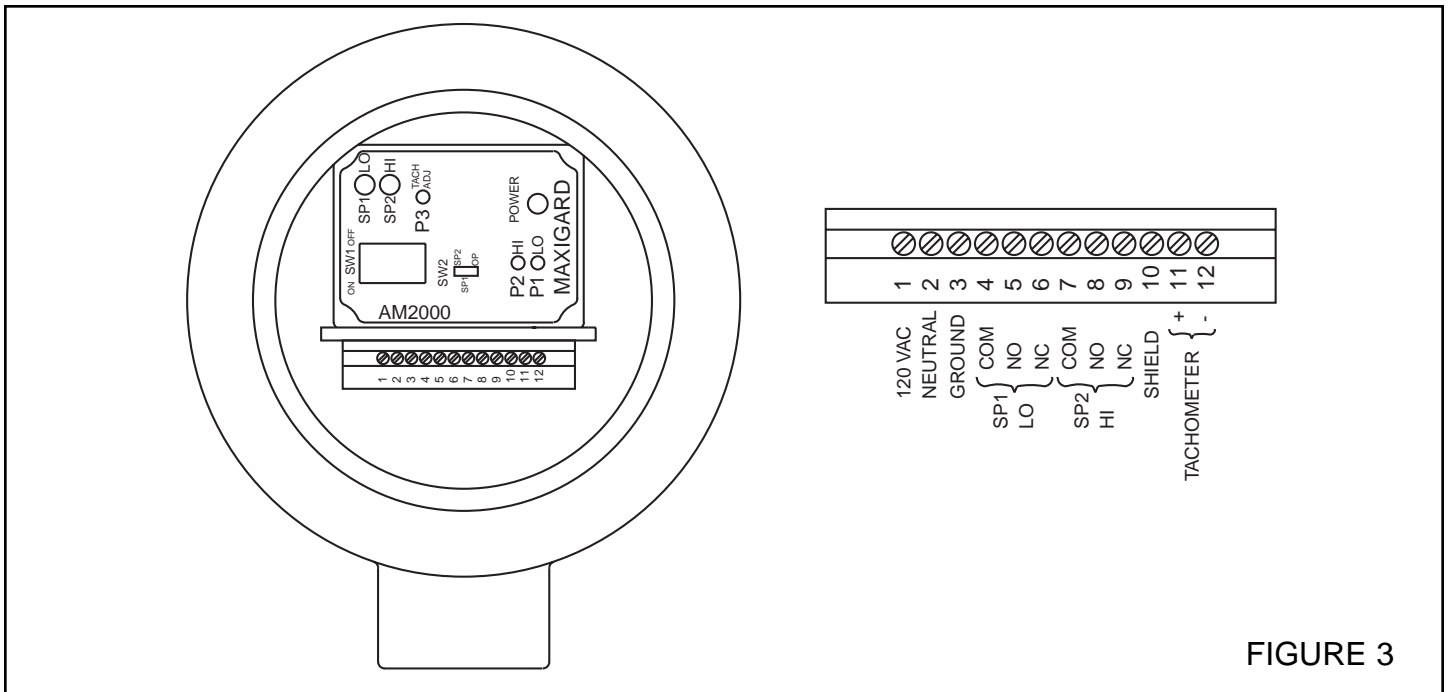

FIGURE 3
- 5.1** Power connections and output connections to the A2500-1 Speed Switch are shown on figure 3, page 5.
- 5.2** Connect 115 VAC power to terminals 1 & 2 of the A2500-1 terminal strip. Connect the equipment safety ground to terminal 3 on the A2500-1 terminal strip. The green power LED will be on when the switch is powered. (see figure 3, page 5).
- 5.3** Make Relay connections to terminals 4 through 9 as required by the application. Normally open contacts are held closed and normally closed contacts are held open when the operating speed exceeds the set point speed for that particular relay contact. When a relay is energized the yellow LED for that relay will be on. (see figure 3, page 5)
(see figure 3, 4, 5 page 5)